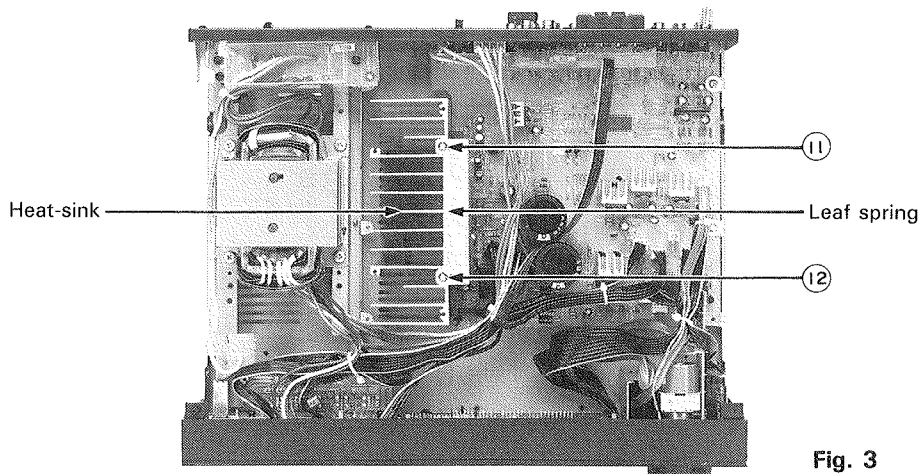

Fig. 3
- 2.Remove two screws ⑪ and ⑫ securing the heat-sink and leaf spring. (See fig.3.)